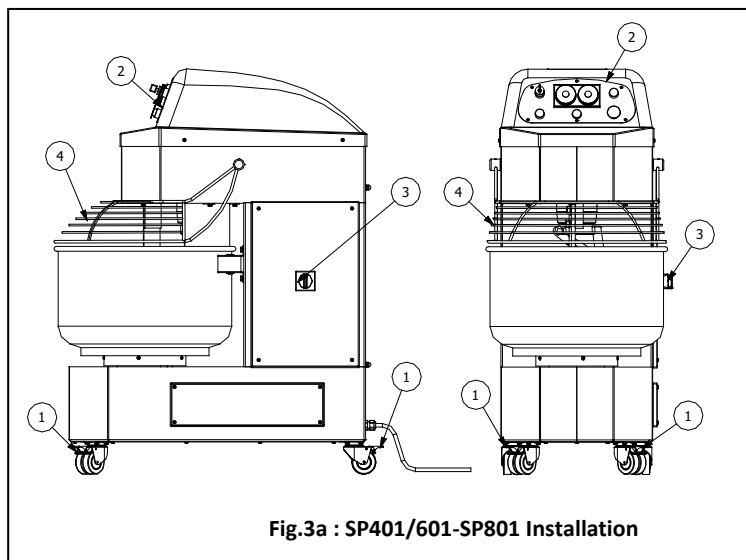
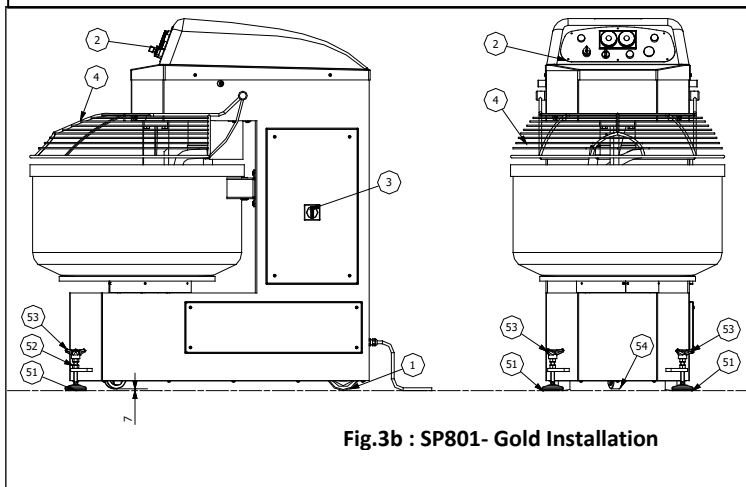

Fig.3a : SP401/601-SP801 Installation
Fig.3b : SP801- Gold Installation
a) For SP401, SP601 and SP801 models, lock the wheels by pressing on the lever with the foot Pos.1 Fig.3a, until the lever remains locked. For the SP801 Gold model the positioning of the machine is done by adjusting the front legs Pos.51 fig.3b through the hand wheel Pos.53 and subsequently blocking by tightening the nut, Pos.52.
All maintenance and cleaning operations that do not relate to the command functionality check and of the lights on the control panel require the machine to be switched off by means of the line switch button 3 fig.3a / 3b and disconnecting the power cord from the power outlet.